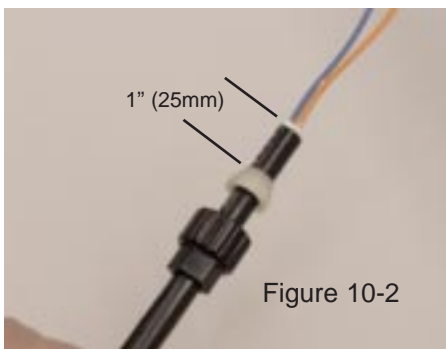

Figure 10-2
**10.02** Place grommet on cable sheath 1" (25mm) from cable butt. (Figure 10-2)